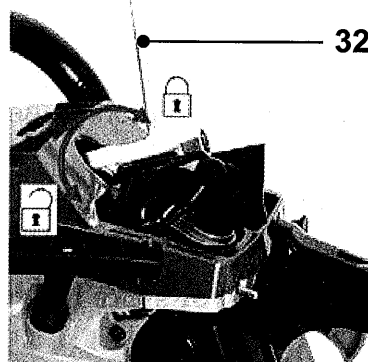

Fig. 52
3. Loosen the spark plug **(20)** anticlockwise using the multi tool **(32)** and remove it carefully (Fig. 52).